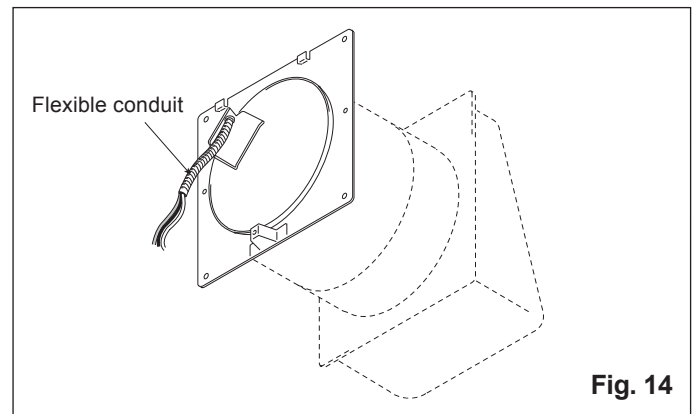

Fig. 14
8. Pull the flexible conduit through the hole where the junction box was attached to the wall sleeve. (Fig. 14)